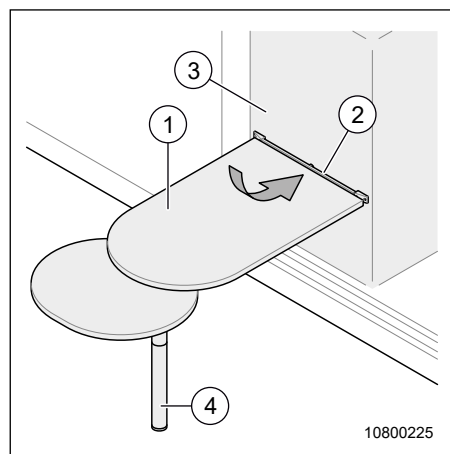

Fig. 19 Hook on outer table
1. Hook table (Fig. 19, Pos. 1) at an angle from above into the guide rail (Fig. 19, Pos. 2) at the kitchen block (Fig. 19, Pos. 3).
Caution: The bottom leg part (Fig. 19, Pos.4) is only inserted and may fall out.